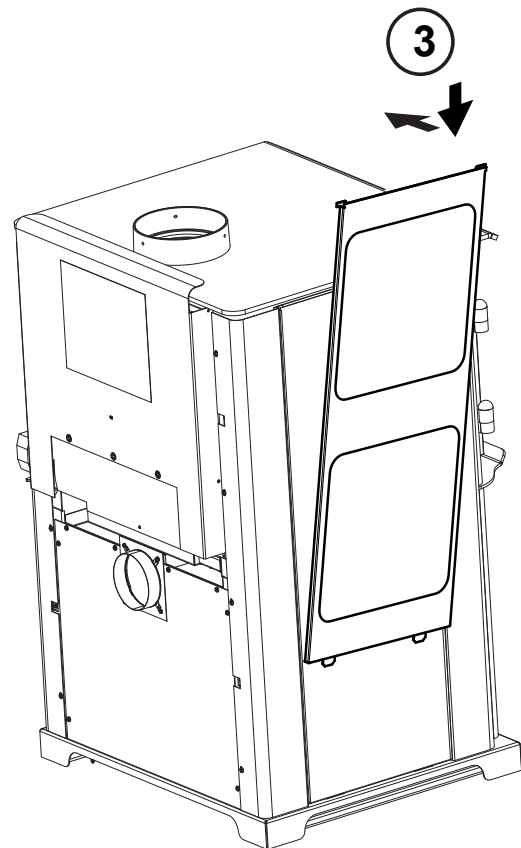

Figure 20.5
3. Reattach tile frame **Figure 20.5**.